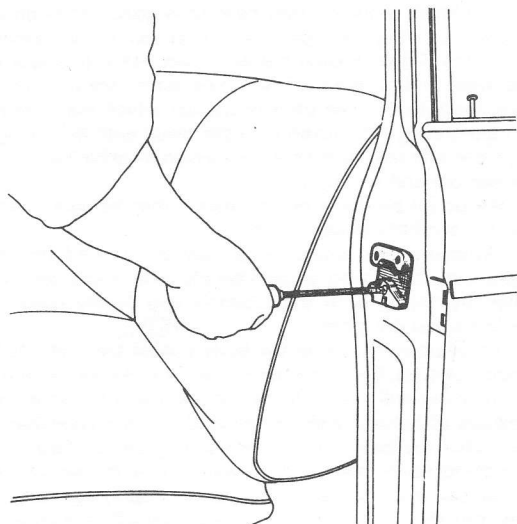

FIG 12:3 Adjusting the door catches
- 6 Push off the windscreen and seal from the inside to the outside, if necessary striking with a rubber mallet. If the windscreen will still not move, cut off the joint outer lip and then remove the glass and joint (see FIG 12:4).